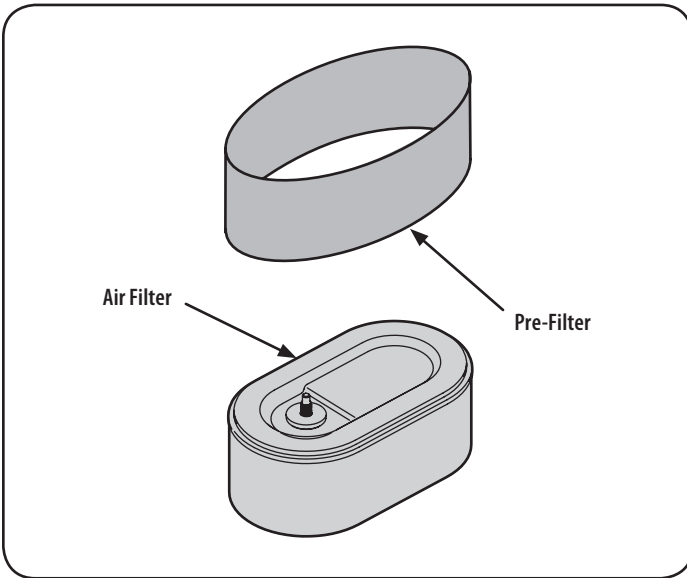

Figure 27
- Remove the foam pre-filter from around the paper air filter. See Figure 27. Replace paper element when dirty or damaged. Clean foam element or replace when damaged.